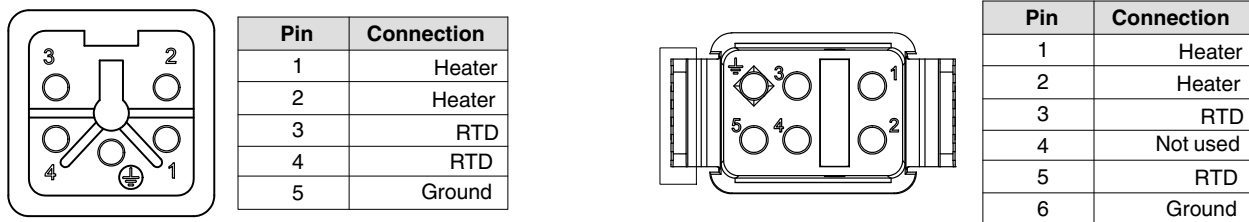

Figure 22 Pin positions on a square nickel applicator cordset
3. See Figure 22 for nickel-sensor cordsets. Use an ohmmeter to check the heater resistance and continuity at the heater pins on the cordset:
3. See Figure 22 for nickel-sensor cordsets. With the sensor at a known temperature, use an ohmmeter to measure the sensor resistance at the sensor pins on the cordset.